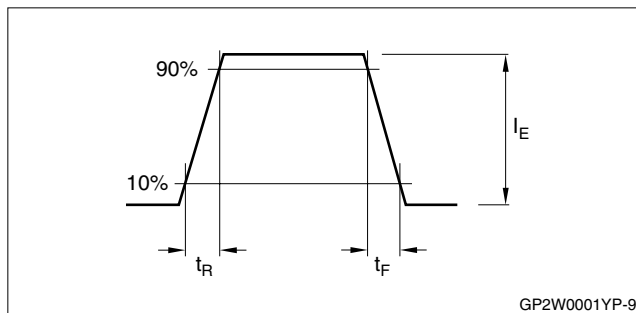

Figure 9. Output Waveform Specification (Emitter Side)
- BR = 115.2 kbps, $\phi \leq 15^\circ$, $V_{CC} = 3\text{ V}$, $R_L = 2.2\ \Omega$, $V_{INTX} = 2.7\text{ V}$, $R_2 = 1\text{ k}\Omega \pm 5\%$, $CX_2 = 1,500\text{ pF}$. See Figures 9, 10, and 11.